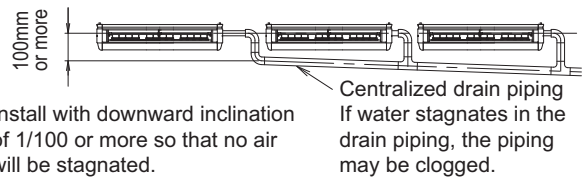

Fig. 28
To avoid the attached drain hose (1) getting excessive force, do not bend nor twist it. (It may cause water leakage.) When conducting the centralized drain piping, follow the instructions in Fig. 28. For the diameter of the centralized drain piping, select the diameter matching the capacity of the indoor unit to be connected. (Refer to technical guidebook.)